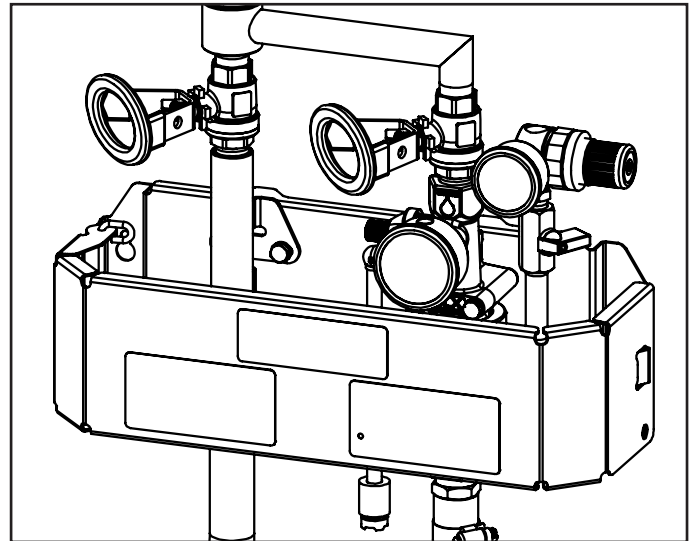

Fig. 6.1: Water and air supply ball valves closed.
1. Ensure systems are properly connected and the water and air supply valves are closed [Fig. 6.1]